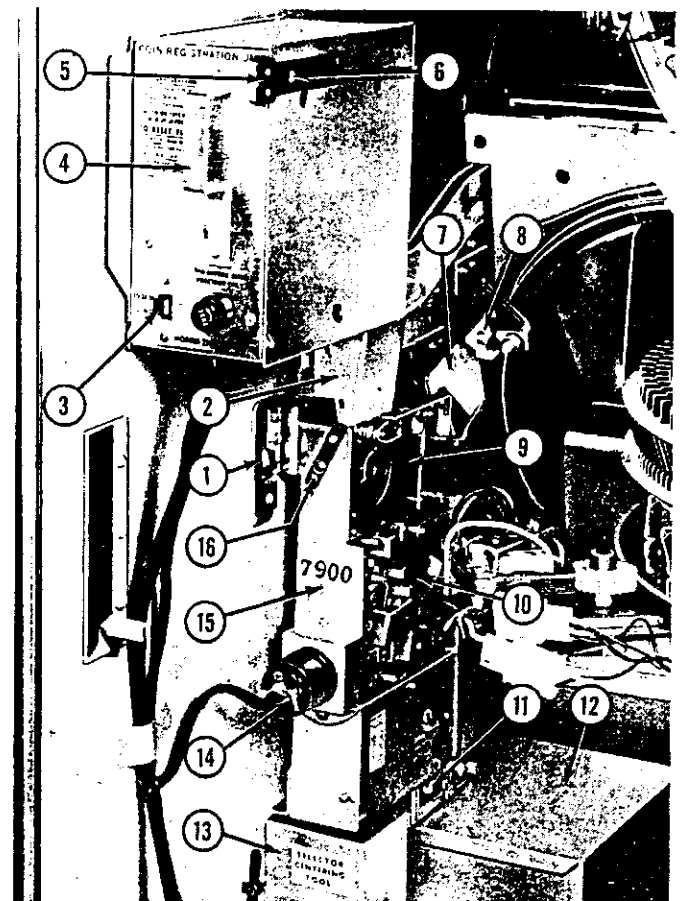
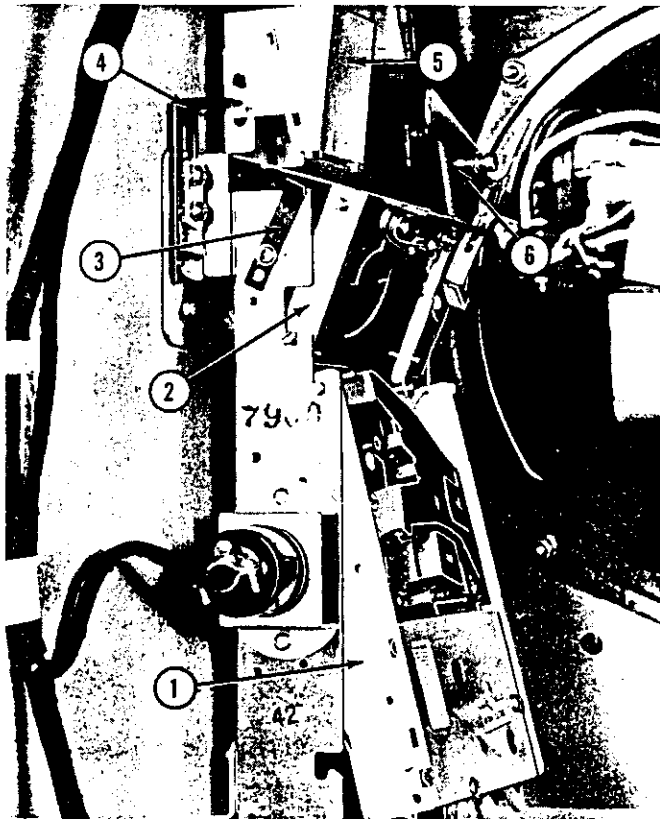
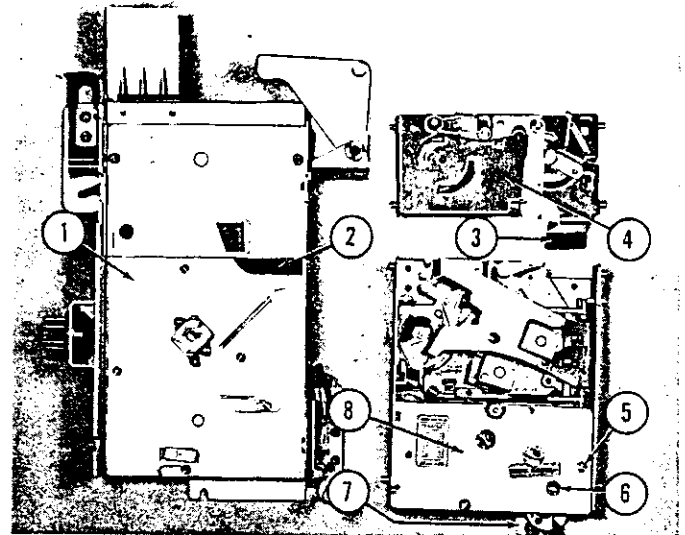
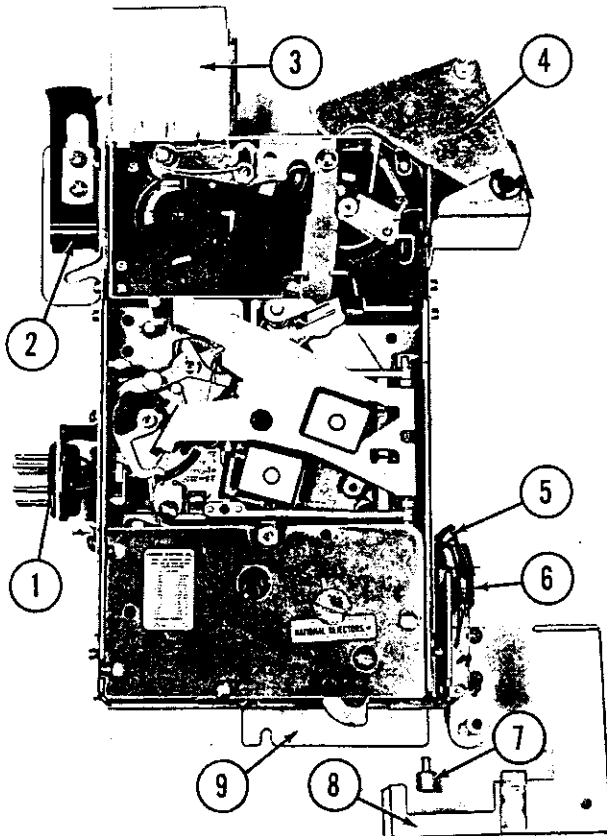

Fig. 4. COIN EQUIPMENT
Fig. 5. REMOVAL OF SLUG REJECTOR COMPONENTS
Fig. 8. SLUG REJECTOR COMPONENTS
Fig. 7. SLUG REJECTOR ASSEMBLY
a. The slug rejector and the playrak assemblies are mounted on the inside right hand wall of the cabinets shown in Figure 4. The slug rejector assembly evaluates the coins as they are processed through the various coin tracks and either rejects them or accepts them in accordance with their composition and denomination. Coins that are rejected are dropped into the coin return cup at the outside of right hand cabinet wall. Accepted coins are guided into a coin track for that particular denomination of coin. Each of the four coin tracks are provided with an individual switch
to record the coin before it passes on to the cash box (Item 12, Fig. 4). Electrical impulses are transmitted from the coin switch through the cable and plug assembly (Item 14) to the playrak (Item 4) or extended play unit (Kit 151) if used. The playrak or the "E. P." unit (when used) sets up selection credits for the coins accepted, in accordance with the price per play as set up on either one or the other of the credit units. Electrically either of these units becomes the key to the electric selector system, and will keep track of plays paid for, cancelling off credits, each time a selection is made, in accordance with the established price per play. When all credits are cancelled, further selection will be interrupted until additional coins are inserted. As an electrical component of the electric selector system, the slug rejector has been discussed in electrical sequence on pages 17 thru 31 of Model 2100 Service Manual.
a. To remove the slug rejector for inspection, cleaning, or adjustment, unlatch the lever (Item 8, Fig. 4) and swing the reject arm (Item 7, Fig. 4) out of the way. The entire assembly is held on its mounting studs by the slide lock (Item 1, Fig. 4). Raise the slide lock and pull the unit to the rear from its mounting studs. As shown in Figure 7, the coin
separator component (Item 2, Fig. 5) and the 5, 10, 25 component (Item 1, Fig. 5) may be removed independently if desired. The spring latch (Item 3) serves to lock these two components in assembly with the mounting channel and half dollar component shown in Figure 7. When the slug rejector is removed, care should be exercised in handling to protect the nickel flipper from being damaged.
b. The Model 2250 Slug Rejector is a product of National Rejectors, Inc. of St. Louis, Missouri. For service and spare parts other than those indicated by part numbers, in Figures 4, 5, 7 and 8 to be of Wurlitzer manufacture, it is recommended that the services rendered by National Rejectors, Inc. and their branch offices, be employed.
d. Figure 7 shows the complete slug rejector assembly as used for the Model 2250 Phonograph.
The slide lock and mounting bracket (Item 2, Fig. 7), the reject lever and pin assembly (Item 4), the coin switch wire and plug assembly (Item 5), the lower coin chute assembly (Item 3) and the mounting bracket assembly (Item 9) are Wurlitzer components of the slug rejector assembly. Figure 8 shows the several National components included in the assembly. The mounting channel and half dollar rejector unit (Item 1, Fig. 8) serves as a mounting for the five, dime, and quarter unit (Item 8) and the coin separator unit (Item 4). As shown at Item 2, half dollars are separated from the nickels, dimes, and quarters and by-passed to the coin entry of the half dollar component. The smaller coins enter the 5 - 10 - 25¢ component and are processed in the conventional manner.
e. The coin switch (Item 6, Fig. 7) consists of four single pole blade switches, so mounted that one switch is directly under each of the four separate coin exits. When any one of these coin switches is actuated by a coin being dropped into the coin bag a circuit is closed to a corresponding unit in the playrak to establish selection credits in accordance with the value of the coin and the pre-set price per selection.
The slug rejector and playrak are set during production to deliver one play for a dime or two nickels, three plays for a quarter, and seven plays for a half dollar. In cases where it is desired to deliver one play for a nickel, the nickel flipper (Item 7, Fig. 8) may be turned to the position indicated at Item 7 and the